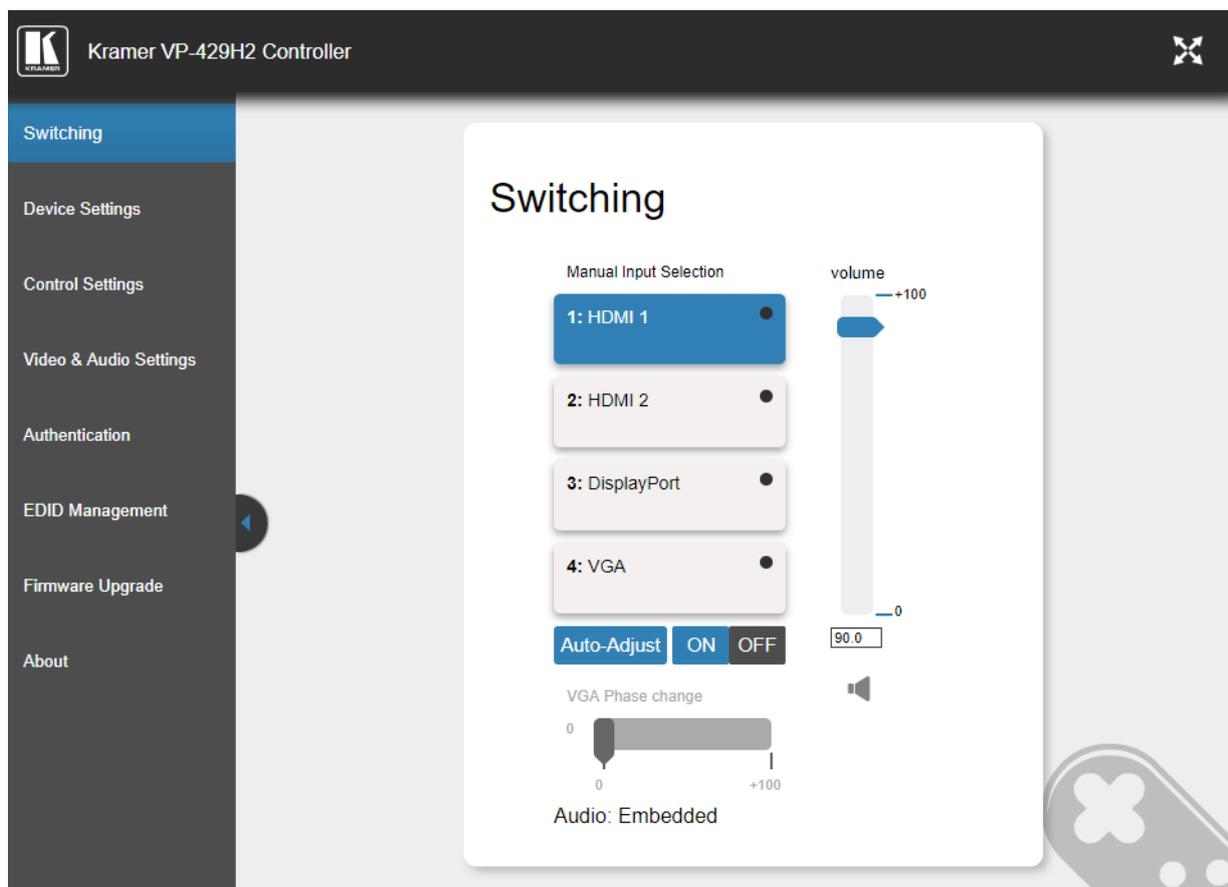

Figure 10: Switching Page with Navigation List on the Left
3. Enter the **User Name** and **Password** (Admin, Admin) and click **OK**. The Switching web page appears (see Figure 10).